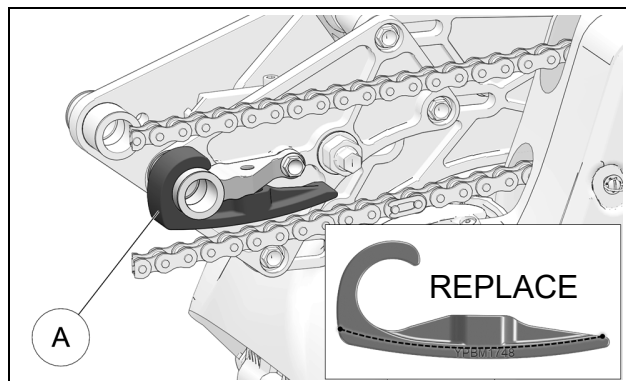

Figure 54
Verify wear on Chain tensioner (A). Replace tensioner if part number molded on the side is erased. See Figure 54.